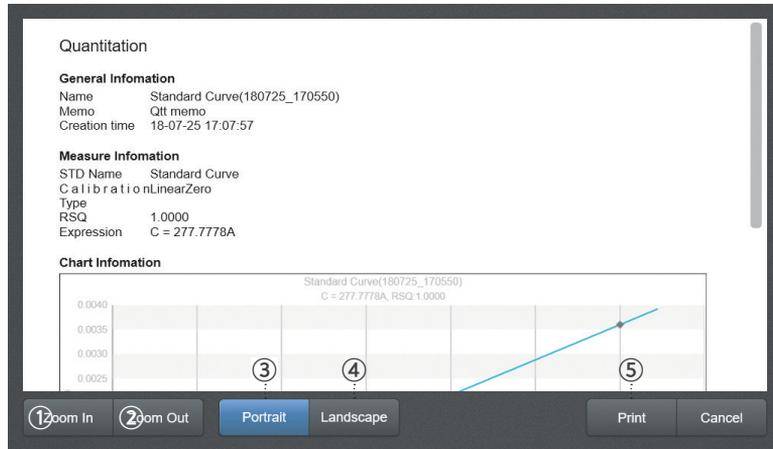

Fig. 4.18
14. [Fig. 4.18] You can zoom in or out on the printing details using the ① **Zoom In** or ② **Zoom Out** buttons.
15. [Fig. 4.18] You can check or print in landscape or portrait mode using the ③ **Portrait** and ④ **Landscape** buttons.
16. [Fig. 4.18] Check the details to print and press the ⑤ **Print** button to open the print settings screen.